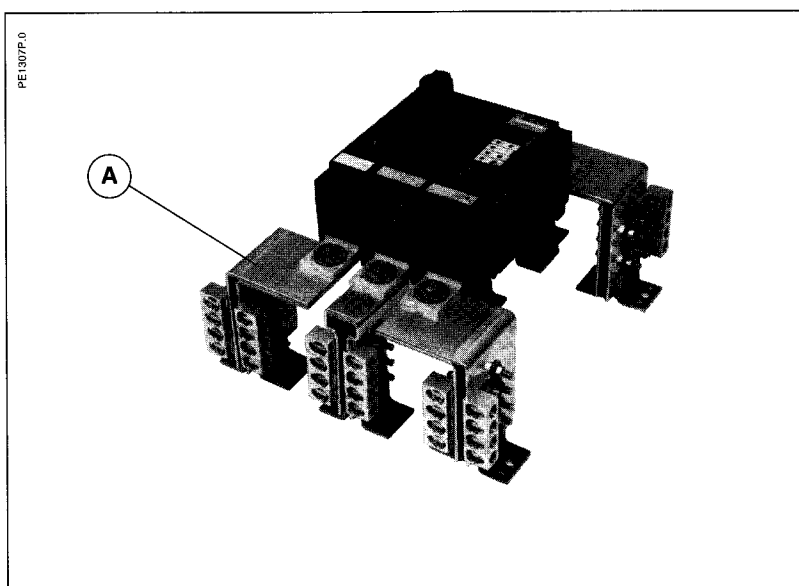

Figure 16 Installing Lugs and Conductors
12. Install lugs and conductors according to instructions packed with the lugs. Acceptable lug and conductor ranges are indicated in Table 3. Use the hardware provided on each terminal pad (A, below) to mount up to eight lugs. Discard hardware packed in lug kits. Distribute lugs evenly on each side of terminal pad (Figure 16). Lugs can be rotated 180 degrees from position shown.